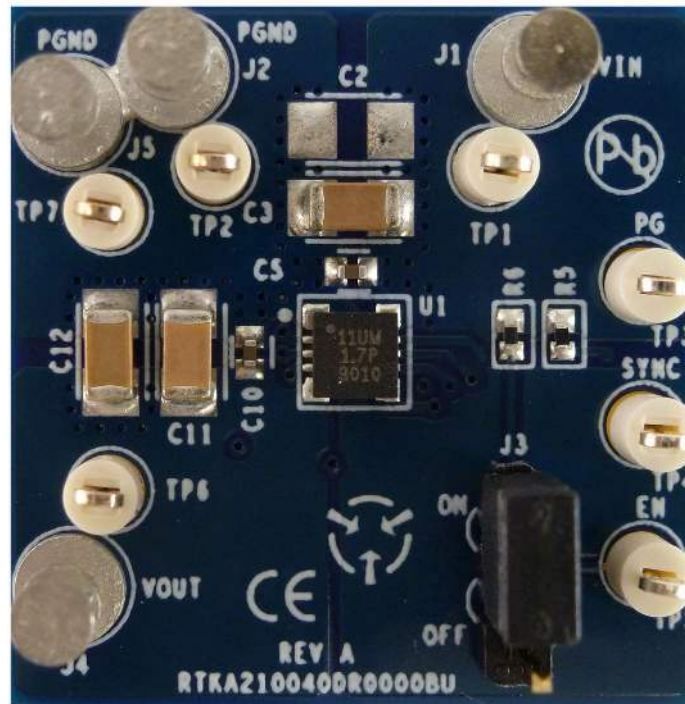
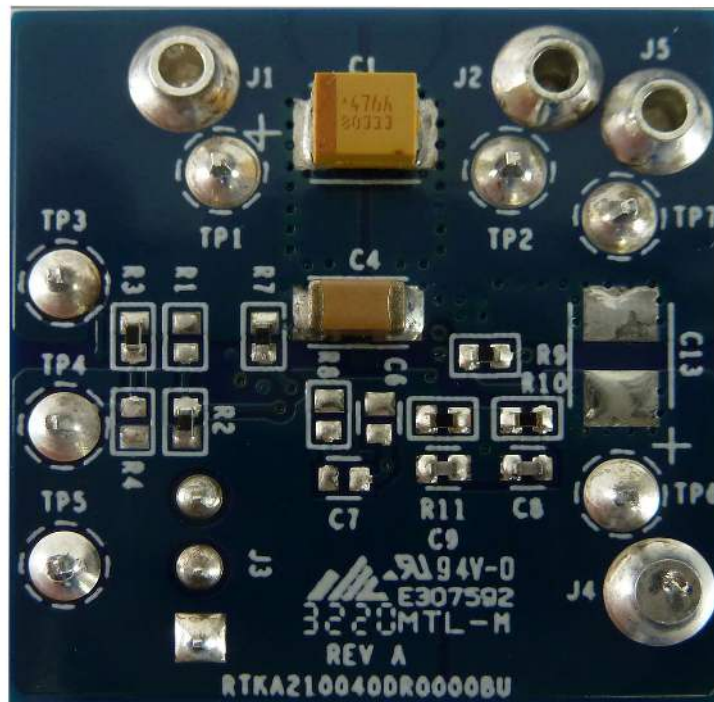
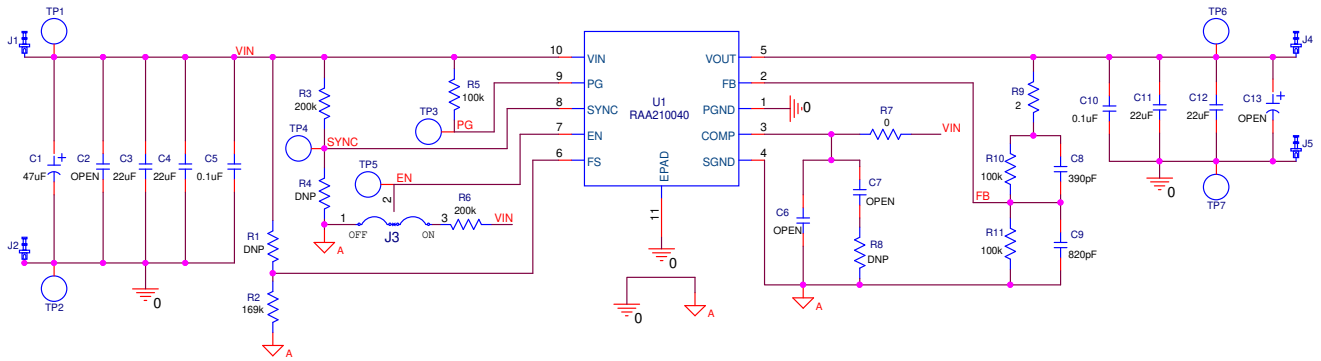

Figure 2. Top of Board
Figure 3. Bottom of Board
Figure 7. Schematic
The RTKA210040DR0000BU demonstration board (shown in Figure 2 and Figure 3) features the RAA210040. Capable of delivering up to 4A of continuous current, the RAA210040 is a compact, synchronous step-down, non-isolated complete power supply that is optimized for space-constrained applications. The RAA210040 is based on a peak current mode PWM control scheme that provides a fast transient response and excellent loop stability. The switching frequency is programmable from 500kHz to 4MHz with either the external resistor or synchronization to an external clock through the SYNC pin.
The RTKA210040DR0000BU provides the peripheral circuitry to demonstrate the feature set of the RAA210040. The demonstration board includes several connectors, test points, and jumpers that simplify the validation of the module. The module is enabled and disabled by moving the jumper across the EN pin as shown in Figure 2. Selecting features like external frequency synchronization is performed by removing the pull-up resistor  $R_3$  of the SYNC pin and connecting the signal generator (square pulse waveform clock signal) to TP4 of the SYNC pin. The output voltage (0.6V - 5V) and the switching frequency (500kHz to 4MHz) are programmed by changing the resistors as shown in Figure 3.
1. Disable the module by connecting the jumper across 2 and 1 on J3 for the EN pin as shown in Figure 2 and Figure 7.